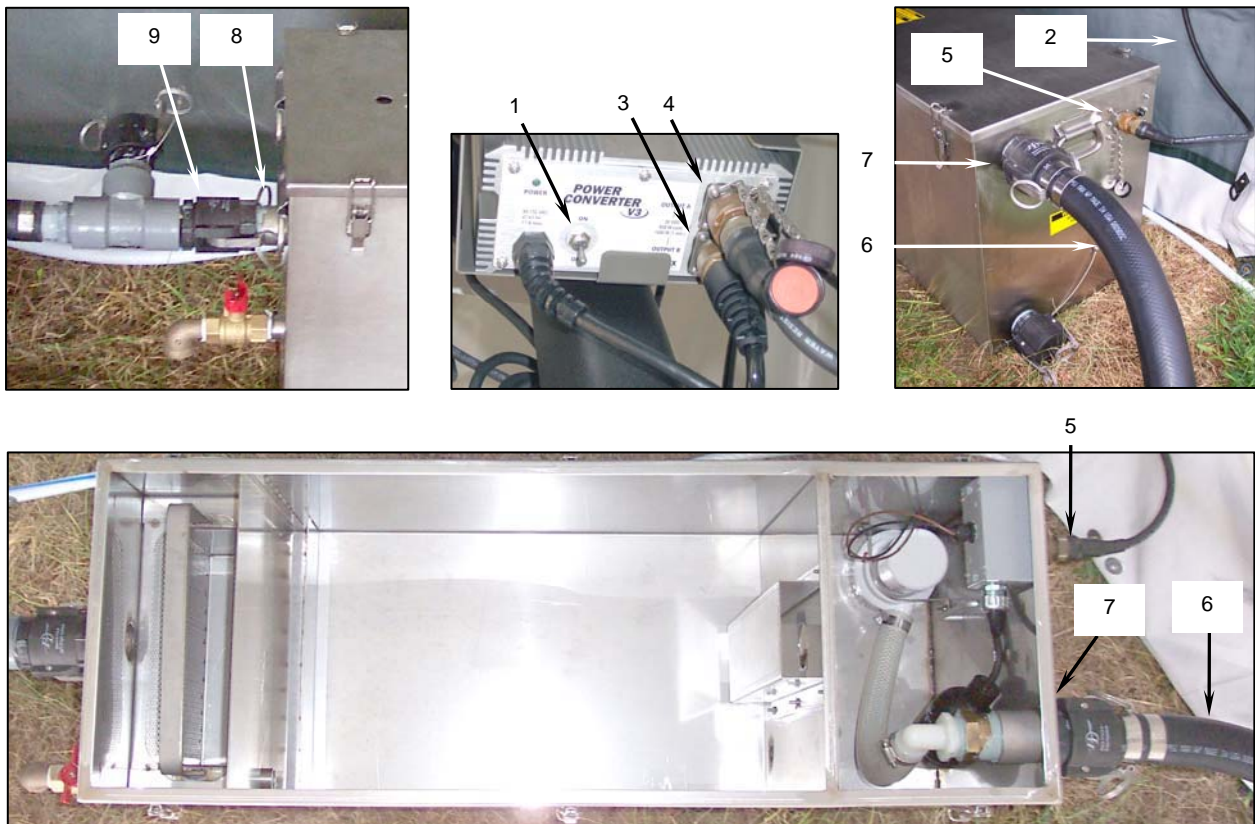

Figure 4. Removing Grease Separator Power Cable and Hose Connections.
8. Turn the power converter power switch off (**Figure 4, Item 1**).
9. Trace the grease separator power cord (**Figure 4, Item 2**) from the grease separator to the power converter and disconnect the cord from the power converter (**Figure 4, Item 3**) or (**Figure 4, Item 4**).
10. Disconnect the grease separator power cord from the grease separator (**Figure 4, Item 5**).
11. Disconnect the 50-ft grease separator discharge hose (**Figure 4, Item 6**) from the wastewater reception facility.
12. Place an absorbent drop cloth under the grease separator outlet (**Figure 4, Item 7**). Then disconnect the 50-ft grease separator discharge hose (**Figure 4, Item 6**) from the grease separator outlet.
14. Place an absorbent drop cloth under the grease separator inlet (**Figure 4, Item 8**). Then disconnect the sink drain hose assembly (**Figure 4, Item 9**) from the grease separator inlet.